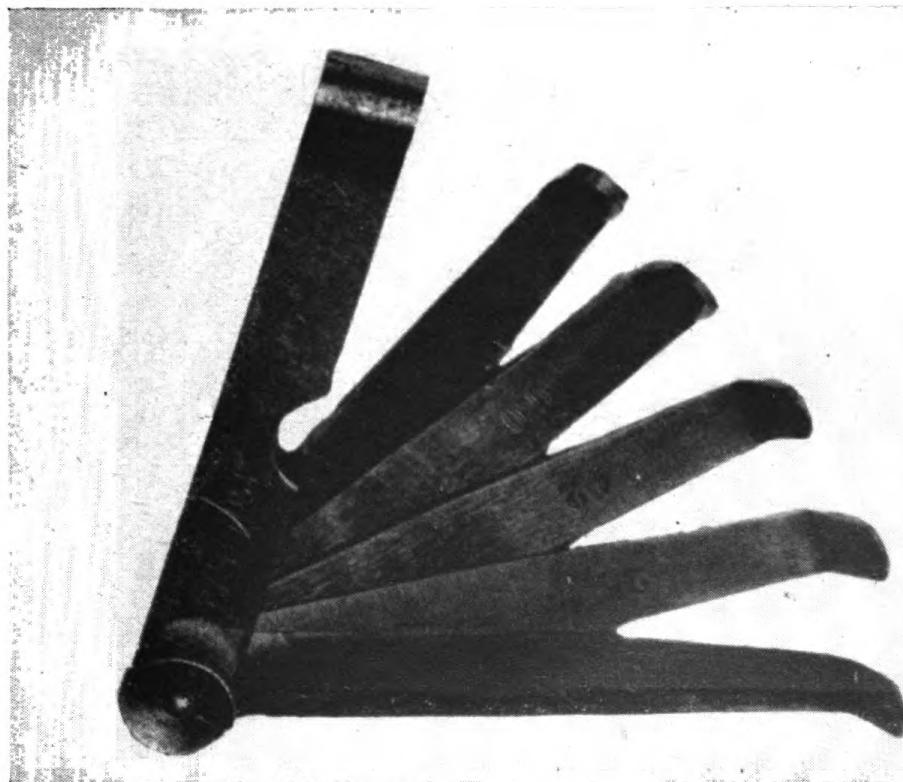

Figure 58. Valve-clearance gauge.
c. VALVE-CLEARANCE GAUGE. A valve-clearance gauge is similar to a thickness gauge except that the end of the leaf is bent at about 45° to make it easier to insert between the rocker arm and the valve stem. (See fig. 58.) There are usually only five or six leaves. These are of the proper thickness for the valve clearance of most airplane engines. The use and care of a valve-clearance gauge is the same as that of a thickness gauge.